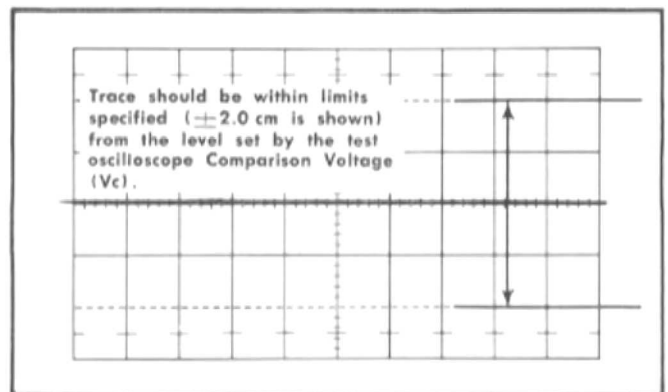

Fig. 6-5. Typical test oscilloscope display when checking Power-Supply voltages.
f. Check—Test oscilloscope trace within ± 2.0 cm of the center horizontal graticule line (see Fig. 6-5).